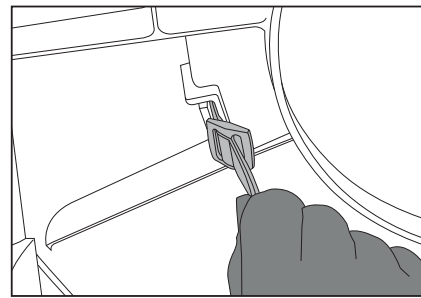

Figure 4.4
- Make sure that the plastic clip passes all the way through the slot, then turn the plastic clip so that it is flat. **See Figure 4.4.**